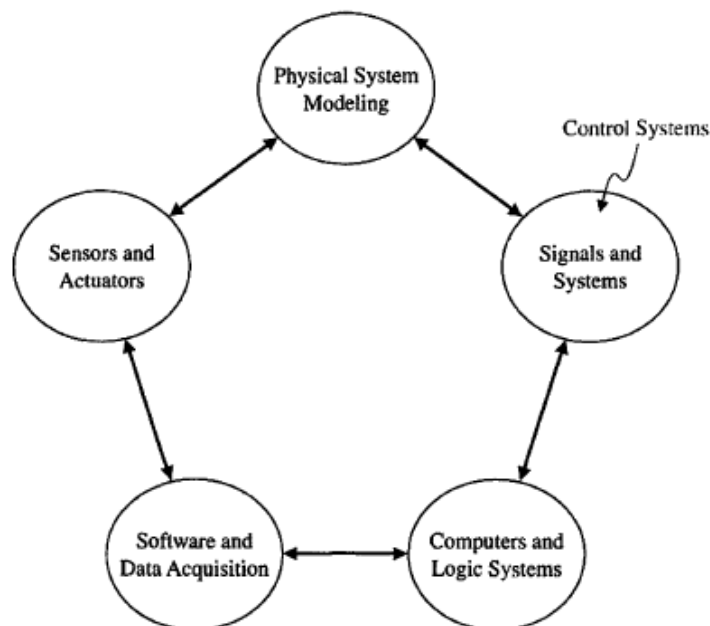

Figure 1.3: The Key Elements of Mechatronics
A natural stage in the evolutionary process of modern engineering design is encompassed in the area known as **Mechatronics**. The term mechatronics was coined in Japan in the 1970s. Mechatronics is the synergistic integration of mechanical, electrical, and computer systems and has evolved over the past 30 years, leading to a new breed of intelligent products. Feedback control is an integral aspect of modern mechatronic systems. One can understand the extent that mechatronics reaches into various disciplines by considering the components that make up mechatronics. The key elements of mechatronics are (1) physical systems modeling, (2) sensors and actuators, (3) signals and systems, (4) computers and logic systems, and (5) software and data acquisition. Feedback control encompasses of all five key elements of mechatronics, but is associated primarily with the element of signals and systems, as illustrated in Figure 1.3.